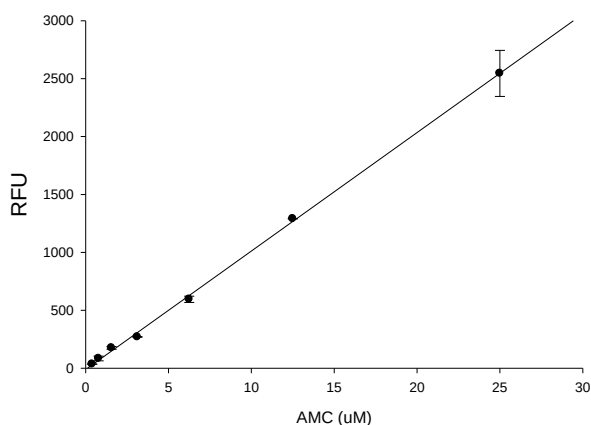

Figure 1. AMC reference standard calibration curve.
- Plot AMC fluorescent reference standard as RFU (relative fluorescent unit) versus concentration as **Figure 1**.